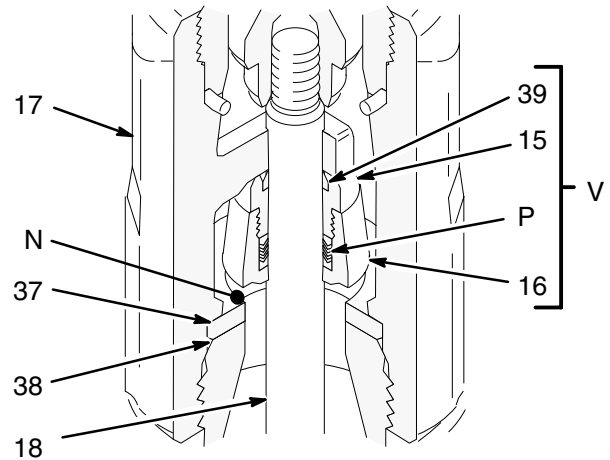
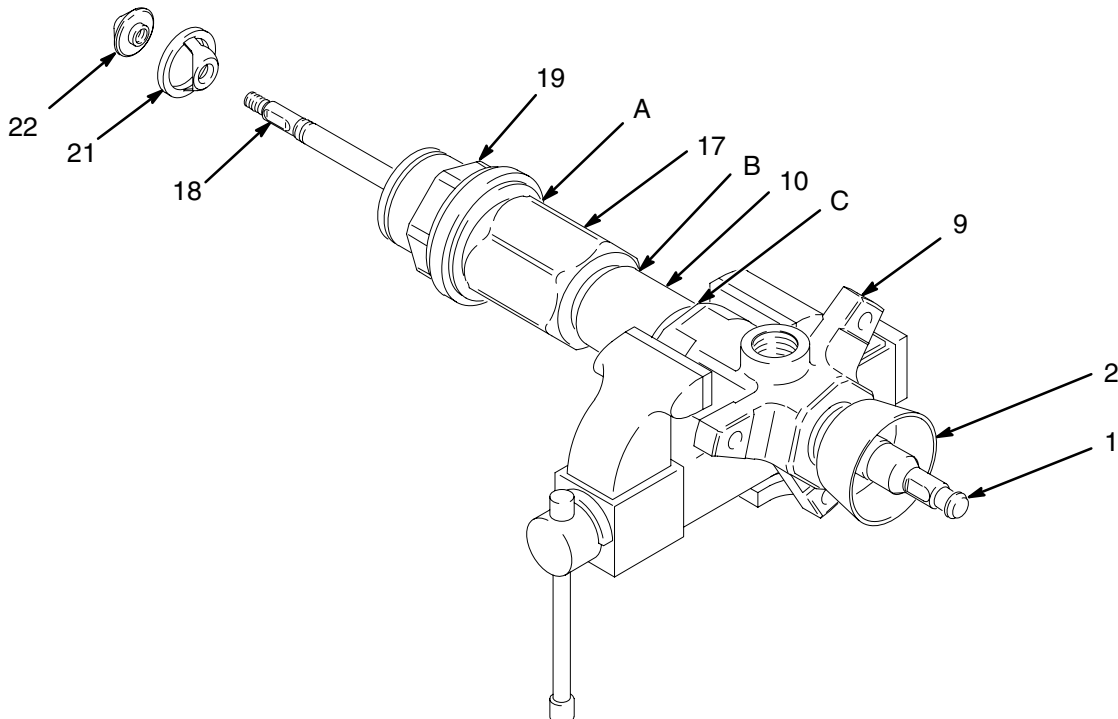
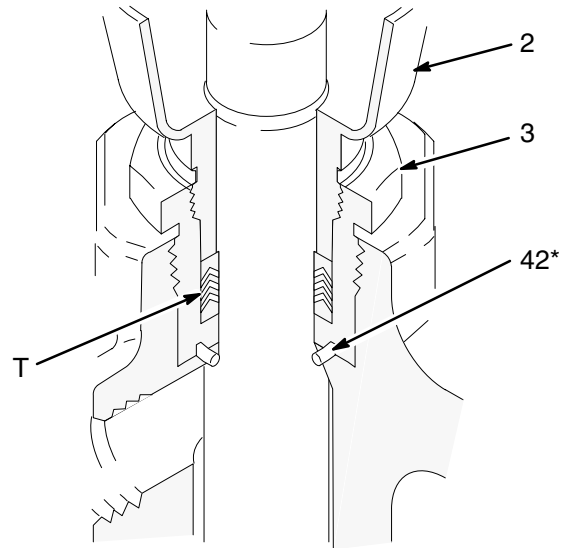

Fig. 5
Fig. 6
Fig. 8
1. Remove the displacement pump from the air motor as explained on page 11. Place the pump in a vise, with the outlet housing (9) positioned as shown in Fig. 6.
2. Hold the flats of the priming piston rod (18) with an adjustable wrench, and use a second wrench to unscrew the priming piston seat (22) from the rod. Slide the priming piston (21) off the rod. Inspect the inner and outer surfaces of the piston (21) for scoring, wear, or other damage.
3. Loosen the packing nut (2) using the wrench (109) supplied.
4. Using a pipe wrench on the hex of the intake cylinder (19), unscrew it from the intake valve housing (17). The pump may separate at joints A, B, or C. See Fig. 6.
**NOTE:** These instructions are written with the pump separating at joint A. If it separates at joints B or C, disassemble it at that joint, place the intake housing (17) in a vise, and continue with step 5.
5. Unscrew the intake valve housing (17) from the cylinder (10). Pull the housing off the pump. The intake check valve assembly (V, see Fig. 5) should slide down the priming piston rod (18) as you remove the housing; if it does not slide easily, firmly tap on the top of the housing (17) with a rubber mallet to loosen.
6. Pull the intake seat (37) and seal (38) out the bottom of the intake valve housing (17). Take care not to drop the check valve assembly (V) as it comes free, and set it aside for later. See Fig. 5.
**NOTE:** If the seat (37) is difficult to remove, insert a hammer and brass rod through the top of the housing (17) and drive the seat out.
7. Using a rubber mallet, drive the displacement rod (1) and the priming piston rod (18) out of the outlet housing (9) and cylinder (10). Inspect the outer surfaces of the rods for damage by running a finger over the surface.
8. Unscrew the packing nut (2). Unscrew the packing housing (3) and remove the seal (42). Remove the throat glands and packings (T). See Fig. 8.
13. To disassemble the intake check valve assembly (V), place the intake valve body (16) in a vise and unscrew the packing nut (15). Remove the seal (39) from the nut, and the glands and packings (P) from the valve body. Inspect the mating surfaces (N) of the intake valve body (16) and seat (37) for damage or wear. See Figs. 5 and 11.
**NOTE:** The seal (39) is press-fit in the nut (15) and may require cutting to ease removal.
14. Unscrew the bleeder valve plug (20) completely from the valve body (29). Clean the valve threads and the bleed hole. It is not necessary to remove the valve body from the pump outlet housing (9).